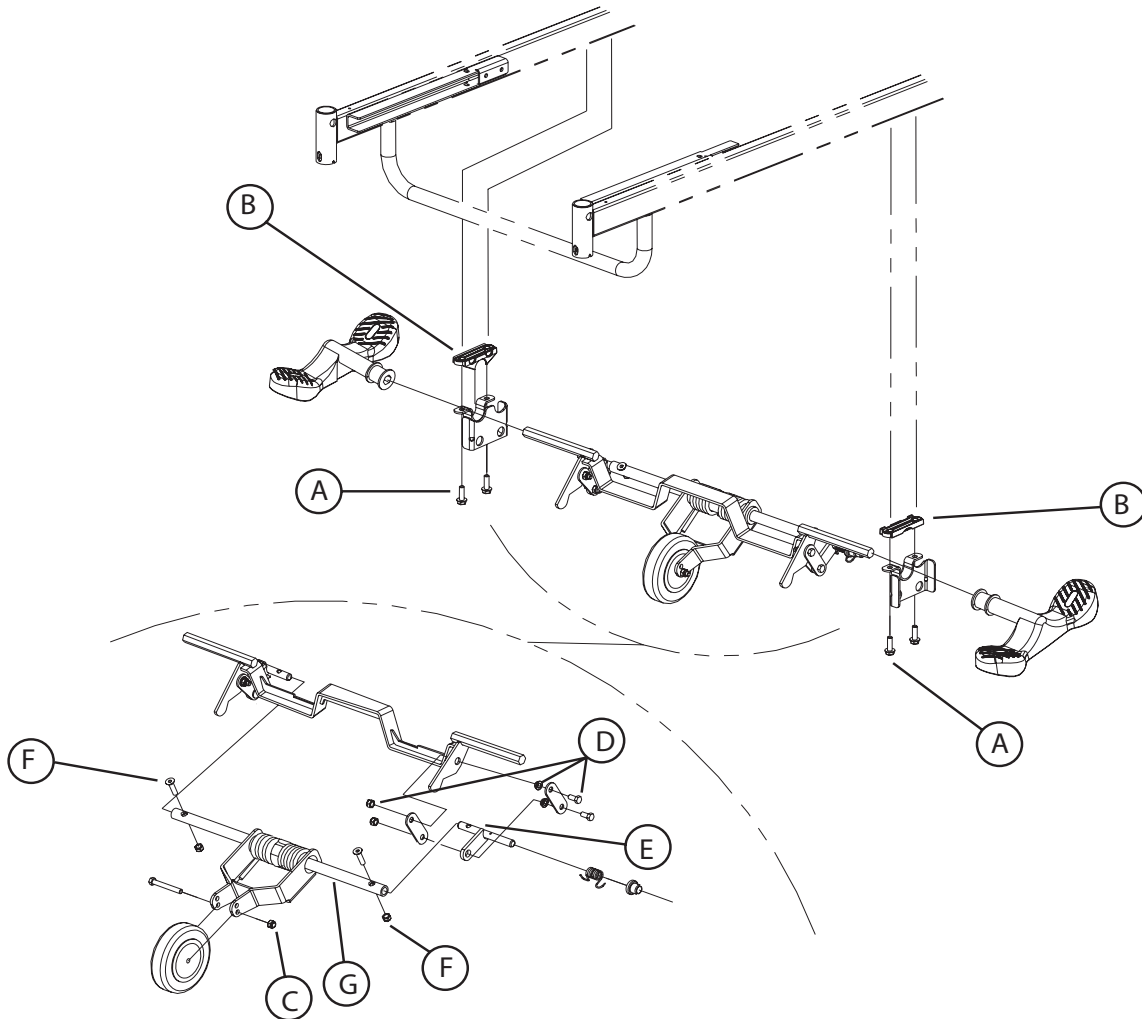

Figure 4.4 A
4. Using the 1/2" socket, remove the two bolts (A) holding the fifth wheel support (optional) or the lever support (F, Figure 4.4 B, (without fifth wheel option) pg. 62) on the side of the defective pedal and lay the support down. Keep the molded spacer (B).
Note: Unless otherwise indicated, refer to Figure 4.4 A on pg. 58 for the following replacement procedure.